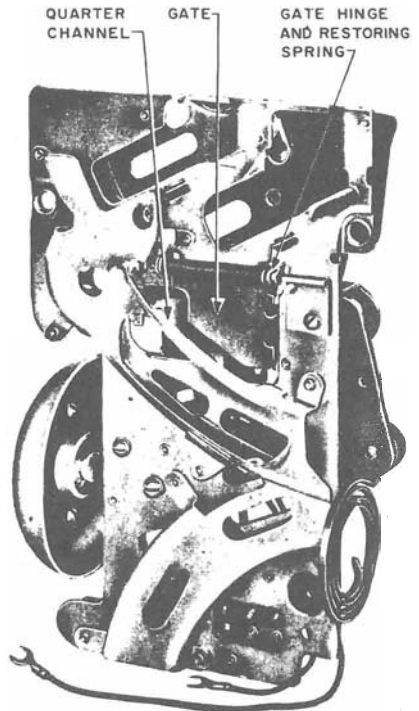

Fig. 26—Gong Signal and Chute Assembly, Rear View
5.14 A hinged gate is provided in the rear wall of the nickel channel opposite the holding and locking latches (Fig. 26). Pennies which may reach the holding latch will be ejected through an opening in the gate. A single nickel deposited and held by the holding latch will be released by the gate and fall into the return chute when the handset or receiver is hung up. The gate is controlled by an operating arm on the switchhook. The gate is open when switchhook is down and closed with switchhook is up. Nickels deposited when switchhook is down will pass through the open gate and into return chute. The gate is also opened by the coin-release pushbutton mechanism.